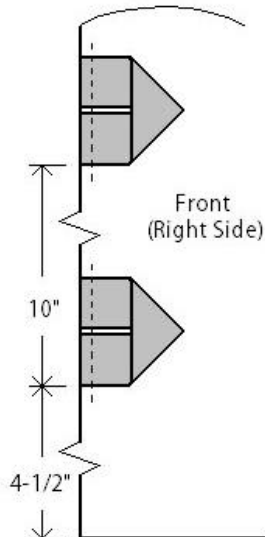

Figure 14. Lashing loops on front panel.
5.1.1 Sew 4 - 3½" Grosgrain lashing loops onto the front panel per *Figure 14* with 3/8" seam.